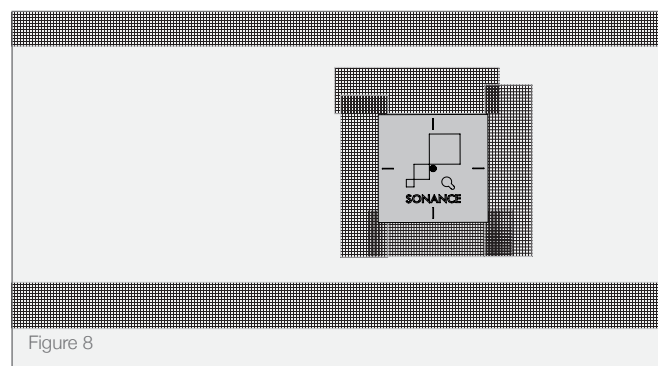

Figure 8
2. Using mesh tape, apply tape around all adjoining surfaces. This includes areas around the mounting platform and around the speaker opening as shown in the photo below (see Figure 8).